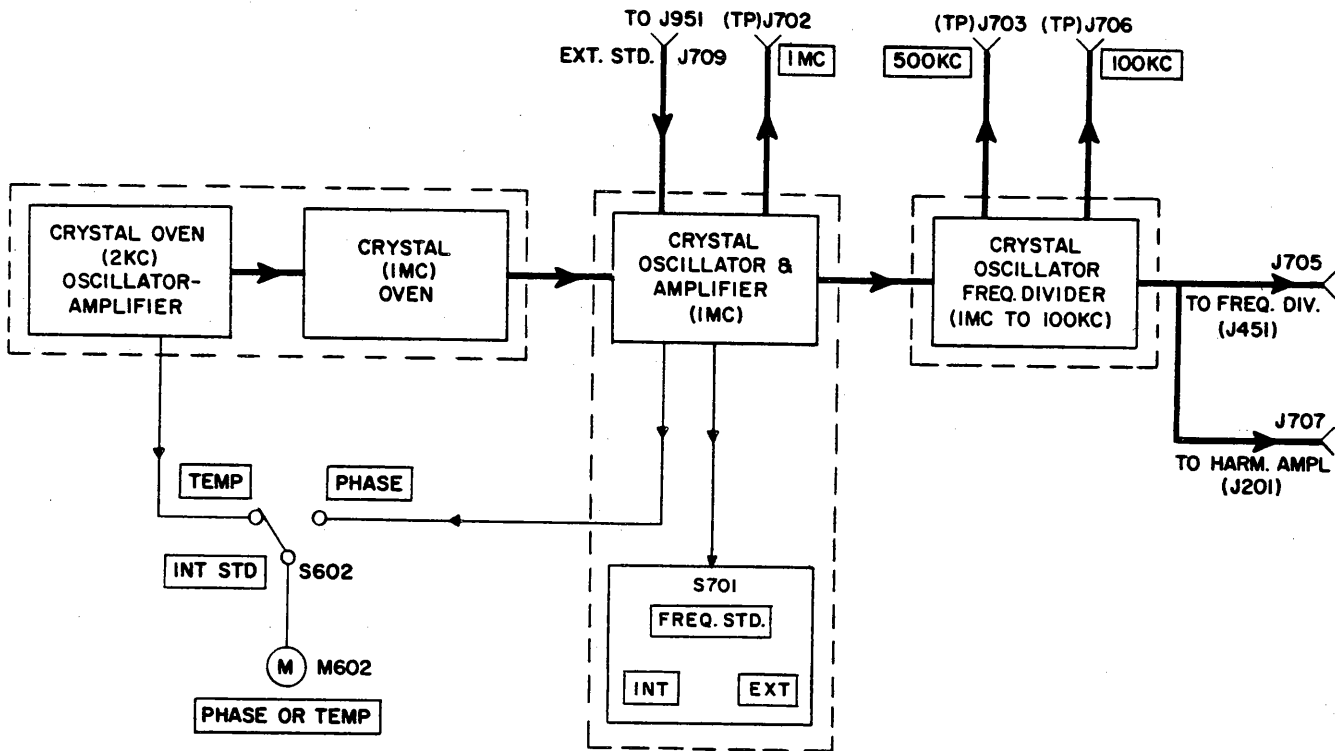
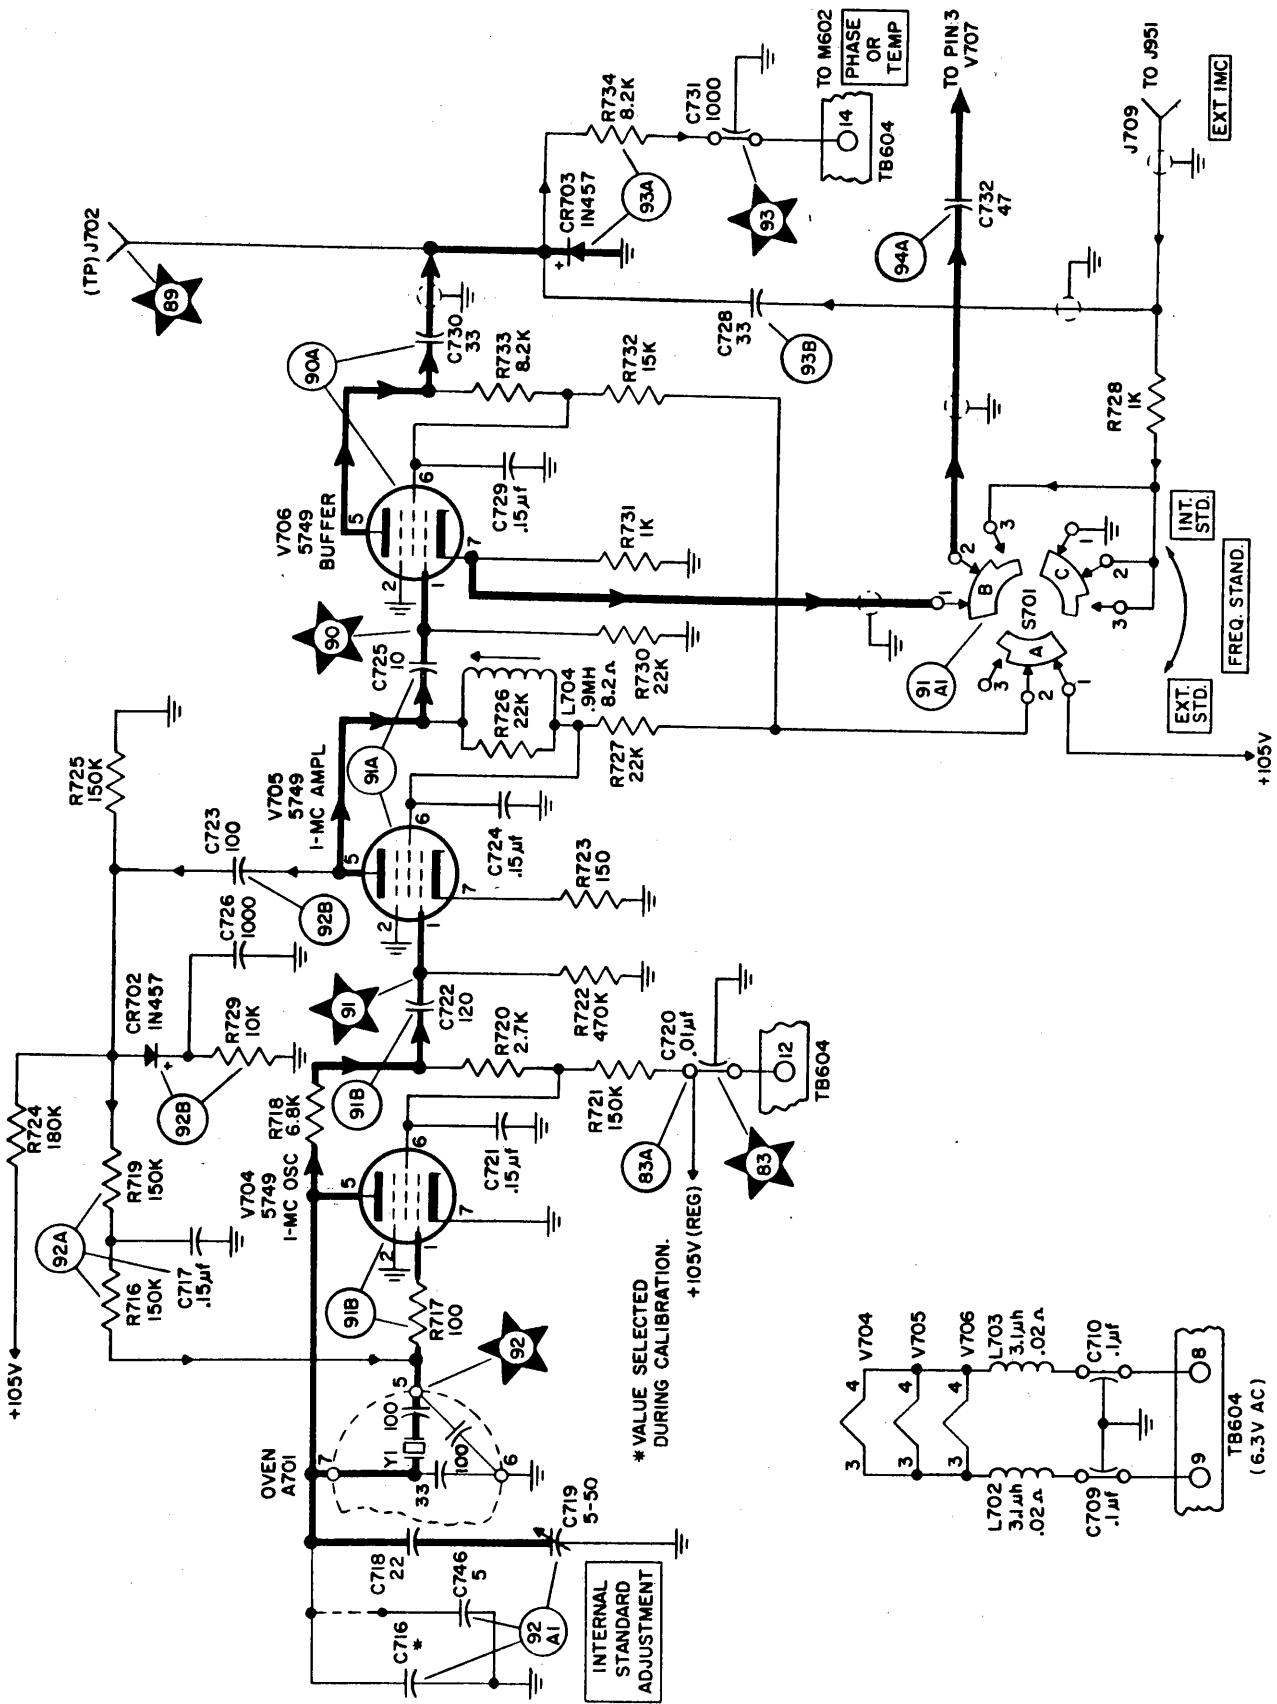

Figure 5-51. Crystal Oscillator, Functional Block Diagram
Figure 5-53. Crystal Oscillator, Crystal Oscillator-Amplifier, Functional Schematic Diagram
a. GENERAL.—The crystal oscillator subassembly (figure 5-51) contains three circuit sections—the crystal oscillator and amplifier (figure 5-52), the crystal oscillator and amplifier (figure 5-53), and the crystal oscillator frequency divider (figure 5-54). For a complete schematic diagram of the crystal oscillator subassembly, refer to figure 6-17.
Figs. 5-51 to 5-56